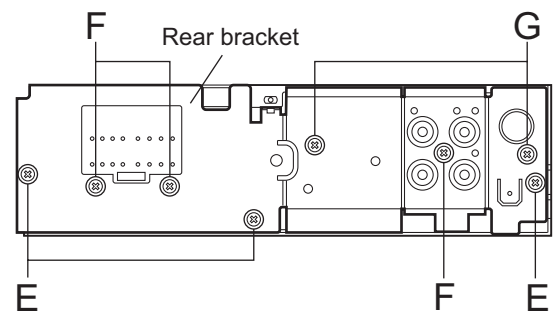

Fig.8
2.1.5 Removing the rear bracket (See Fig.8)